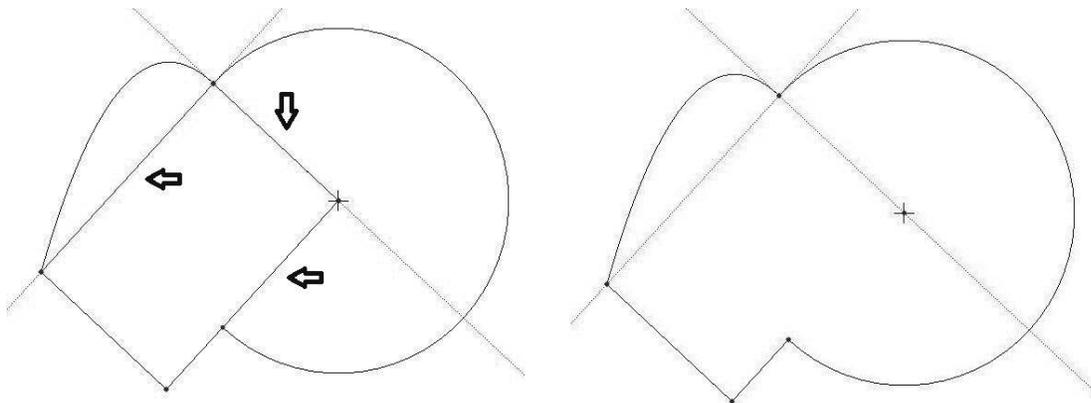

Figure 3-36 Review
Step 35: Draw an angled rectangle. Use  to draw a conic curve on the upper left side of the rectangle. See the left side of Figure 3-36.
Step 37: Use  to remove the interior lines. See the right side of Figure 3-36. How did you do? Review the tools if necessary.
The phantom lines shown below at the folds were created using the LINE tool, then *selecting* the line, holding down RMB until **Menu** pops up, *selecting* **Properties** from the pop-up menu, changing **SOLIDFONT** to **PHANTOMFONT**, *picking* **Apply**, then *picking* **Close**. Is it easier to determine what shape is created with the phantom lines added? See Figure 3-36.